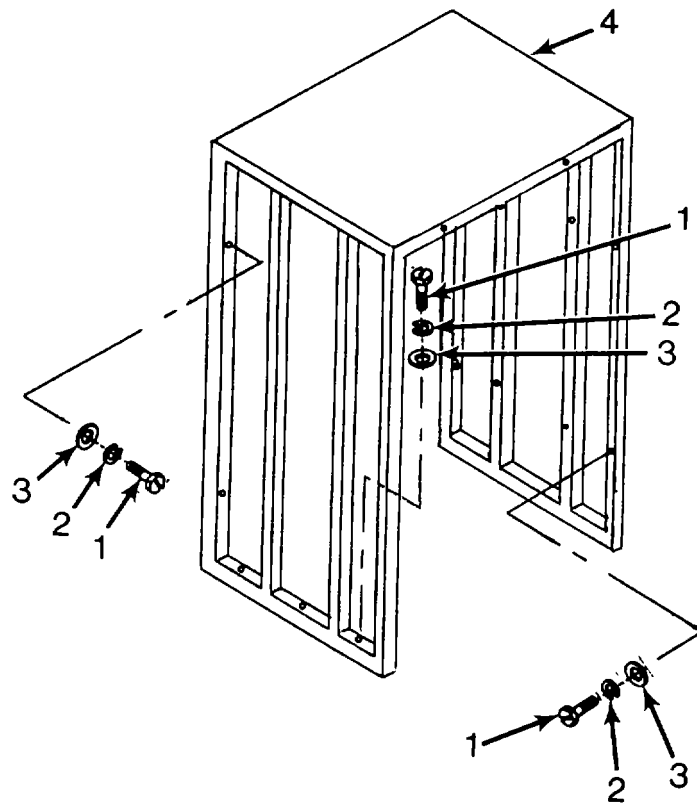

Figure 4-4. Storage Cabinet Assembly
a. Inspect. (See Figure 4-4.)
(1) Inspect storage cabinet in interior front of shelter for dents, cracks in frame and chips in top. Inspection and maintenance instructions are identical for both cabinets.
(2) Inspect welded areas of storage cabinet for breaks or separation of welded seams.
a. Inspect. - Continued (See Figure 4-4.)
- (3) Inspect storage cabinet paintwork for signs of peeling or cracking.
- (4) Inspect storage cabinet assembly for security of mounting.